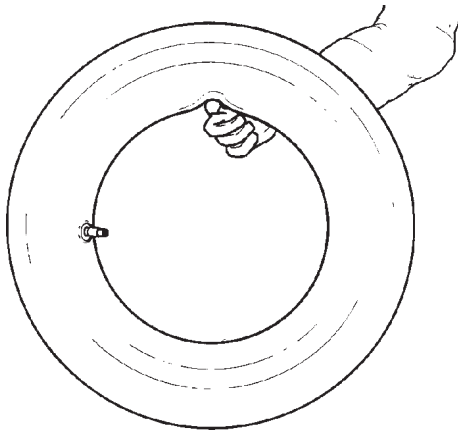

Fig.5.1-2
**C.** Inflate the tube slightly: if held with the index finger it should bend a little (Fig.5.1-2).